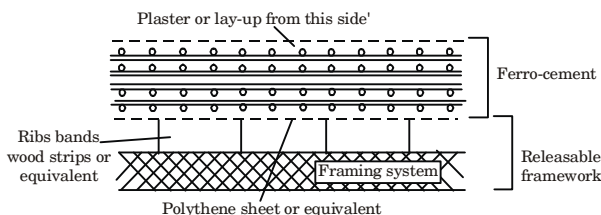

Fig. 5.15.4. Open mould method.
- iv. To facilitate mould removal, the mould is covered with a release agent or entirely covered with polyethylene sheets. Fig. 5.15.4 illustrated the open mould method.